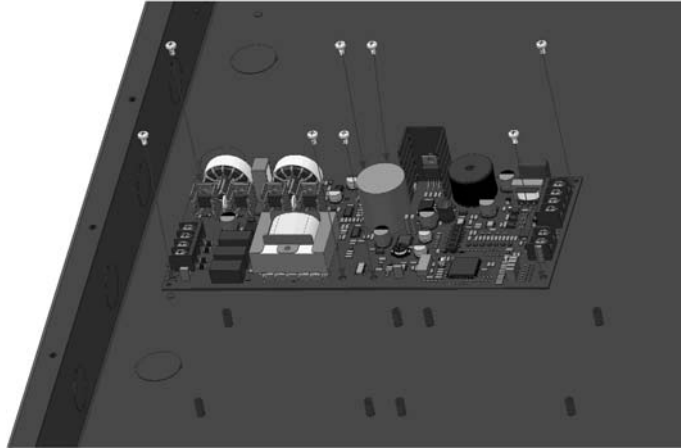

Figure 4-34 ECS-INT50W in FACP Cabinet
2. To mount the ECS-INT50W inside the FACP cabinet under the main board, align the board with the mounting holes. Secure the board to the enclosure with the supplied screws. See Figure 4-34.